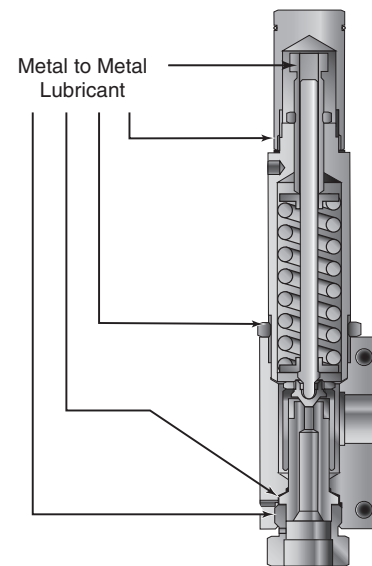

Figure 4
**5. Relief Valves** - Threads should be lubricated on the cap, spring cylinder, adjustment bolt and on the seat gland. Refer to Figure 4 for lubrication sites on the relief valve.